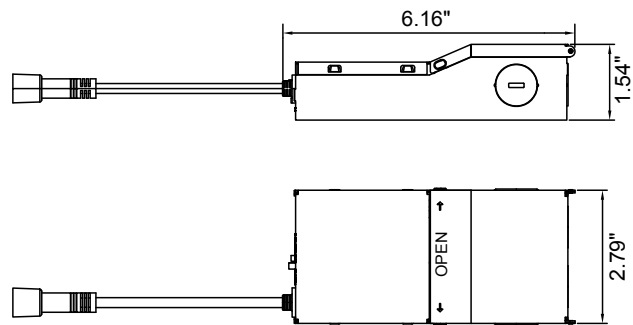

Fig. 2
B. If new hole is to be cut, use provided hole template. Place template over the desired location. Cut the opening with a saw (not included). (Fig. 2)